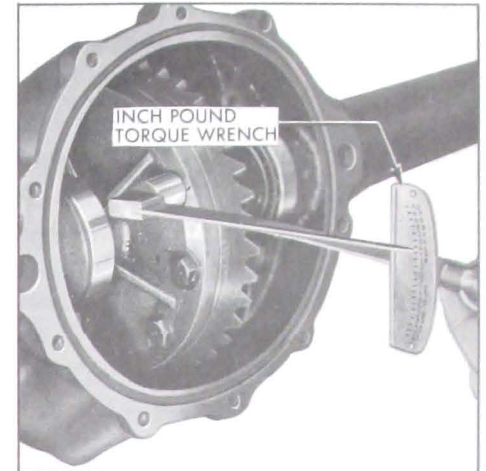

Fig. 6-32—Checking Differential Case Preload
4. Rotate differential case several complete turns to seat bearings. Check bearing preload using an inch pound torque wrench connected at ring gear attaching bolt. With wrench projecting approximately straight out, bearing preload should read 30 to 40 in. lbs. with new bearings, or 15 to 25 in. lbs. with reused bearings. See Figure 6-32. If preload is not according to these specifications, increase shim thickness on each side .002" for each additional 10 in. lbs. preload desired, or decrease shim thickness .002" on each side for each 10 in. lbs. preload to be subtracted.